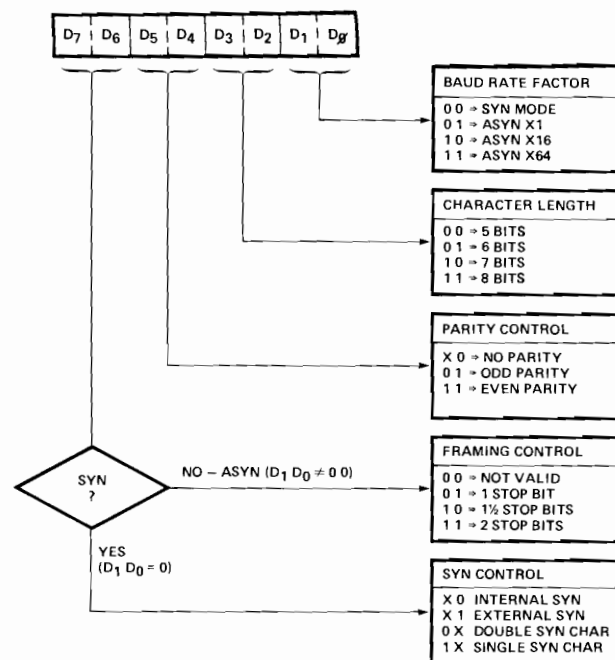

Figure 5. Mode Instruction Format
register. The mode control register is loaded by the first control output ( $C/\overline{D}=1$ ,  $\overline{RD}=1$ ,  $\overline{WR}=0$ ,  $\overline{CS}=0$ ) following a reset. The format of the mode control instruction is shown in Figure 5. The instruction can be considered as four 2-bit fields. The first 2-bit field ( $D_1 D_0$ ) determines whether the USART is to operate in the synchronous (00) or asynchronous mode. In the asynchronous mode this field also controls the clock scaling factor. As an example, if  $D_1$  and  $D_0$  are both ones, the  $\overline{RxC}$  and  $\overline{TxC}$  will be divided by 64 to establish the baud rate. The second field,  $D_3-D_2$ , determines the number of data bits in the character and the third,  $D_5-D_4$ , controls parity generation. Note that the parity bit (if enabled) is added to the data bits and is not considered as part of them when setting up the character length. As an example, standard ASCII transmission, which is seven data bits plus even parity, would be specified as: